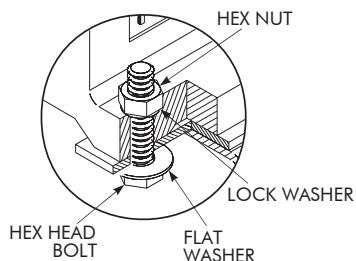

Figure 1B — Bolt Kit Configuration
2. Use the appropriate fasteners to attach the reducer to the baseplate. Reference Figure 1B for bolt kit configuration. Reference Table 1 for correct bolt kit. Reference Table 2 (Page 8) for the proper bolt torque values.